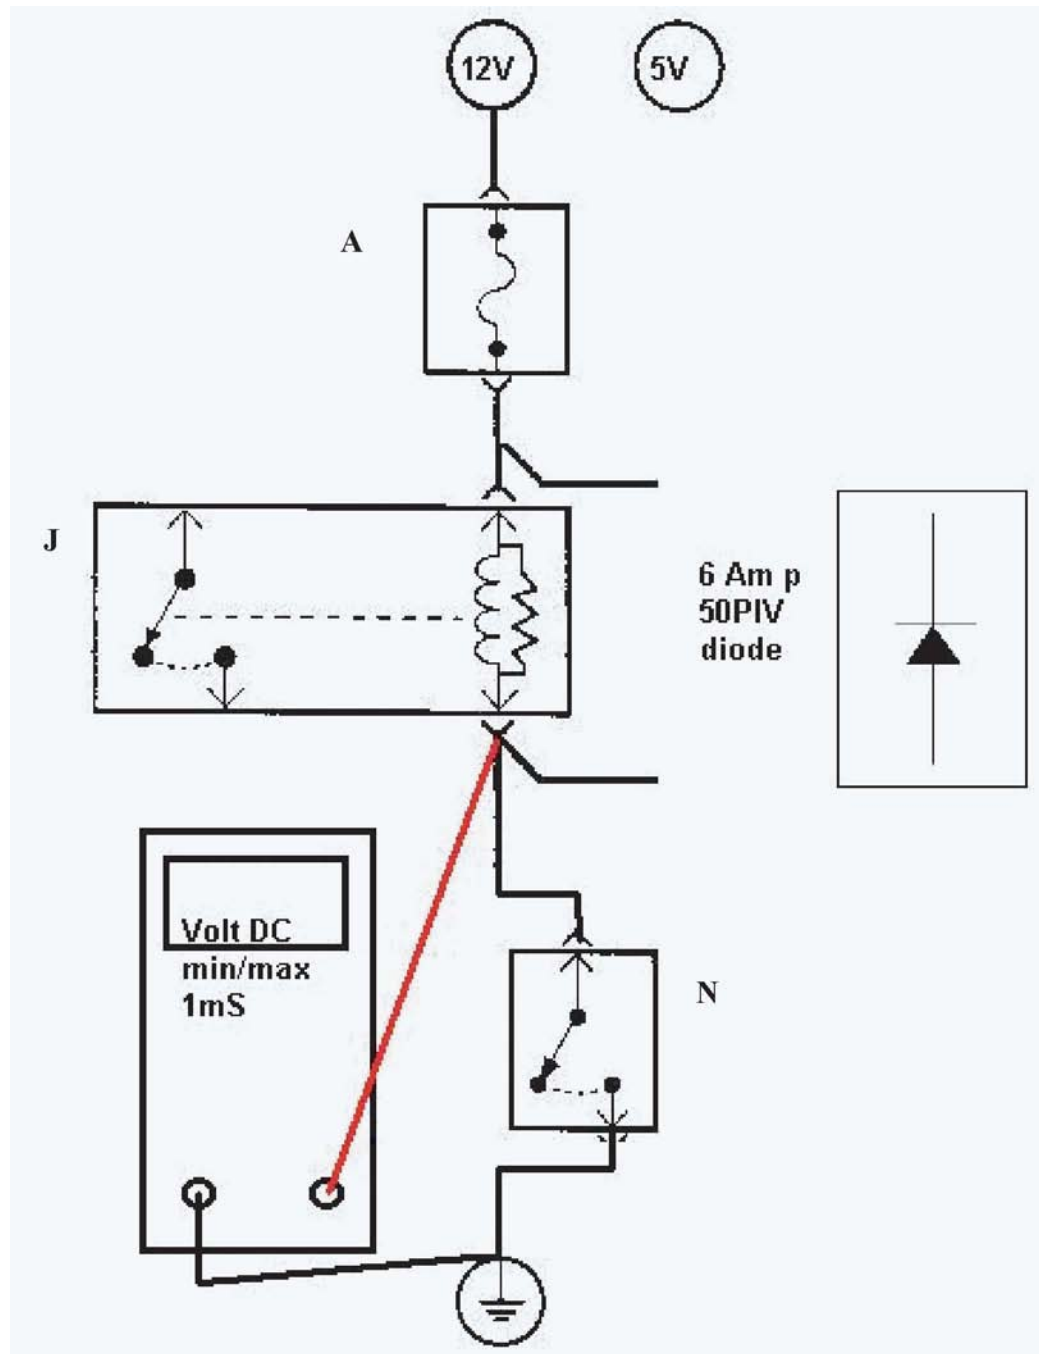

Figure 11-20
- I. Wire a circuit as shown in figure 11-20 using the components illustrated. Do not wire the diode to the relay at this time. Connect a digital voltmeter to the circuit as shown.